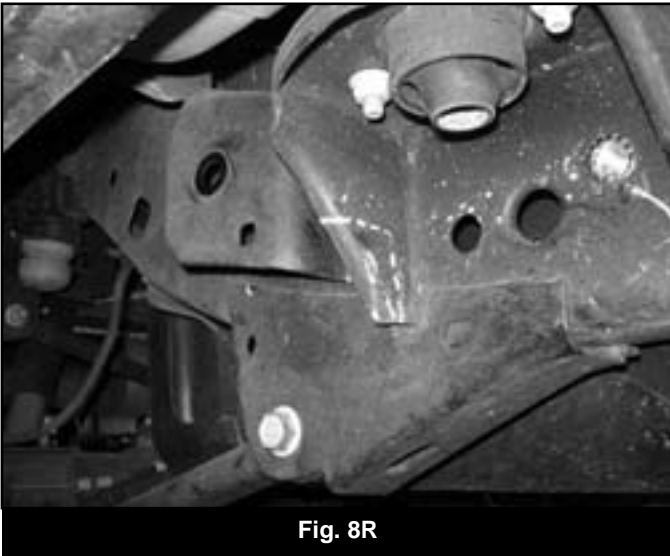

Fig. 8R
19. Measure up 2-1/4" from the bottom edge of the body mount, measure from frame over 3/8" and remove section from the body mount. (Figure 8R, 9R)